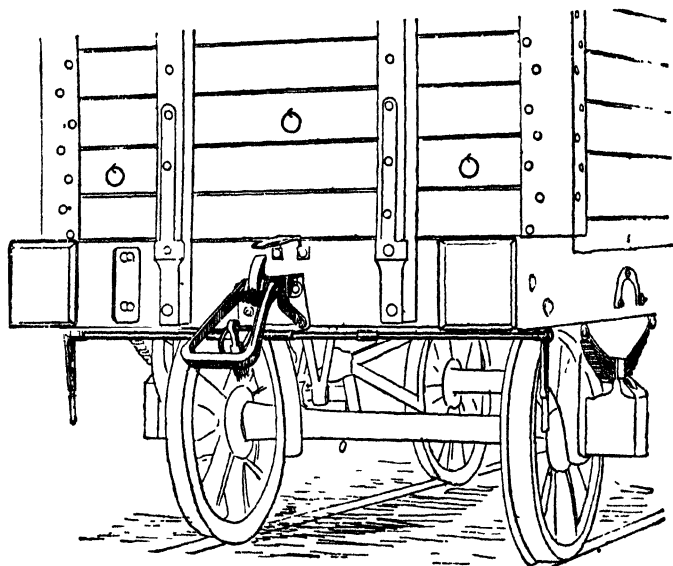

Fig. 34.—Messrs. Latham Brothers, Sheffield (2nd prize, automatic).
*2nd prize, automatic, £50 (Fig. 34).*